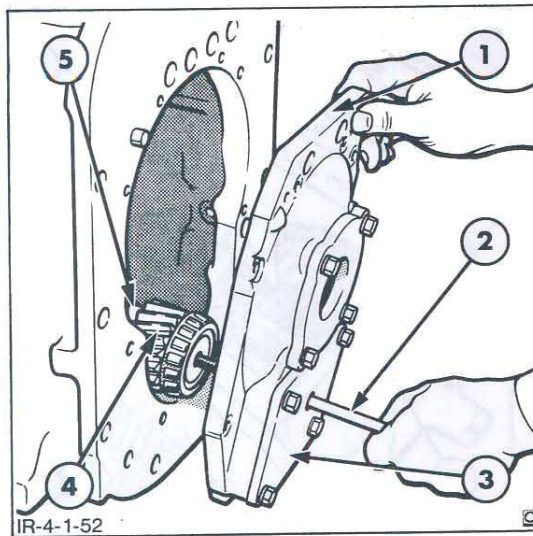
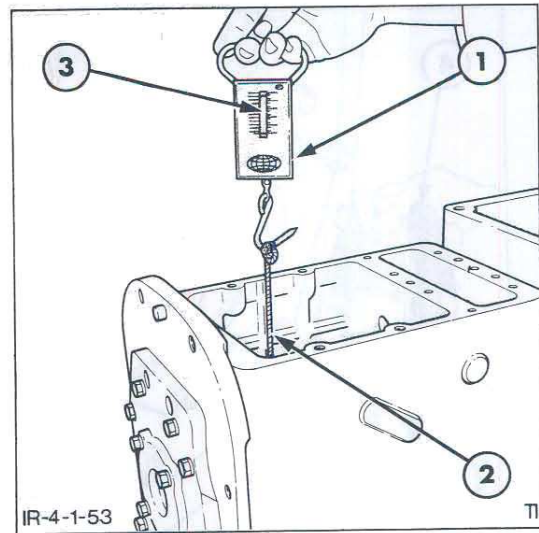

Figure 53
Figure 54
5. Remove the bearing cap plug and insert a suitable rod through the hole in the cap into the countershaft, Figure 53.
9. Using a suitable length of cord and a pull scale as shown in Figure 54, wrap the cord around the countershaft just ahead of the helical gear, Figure 53. Ensure that the cord does not overlap.